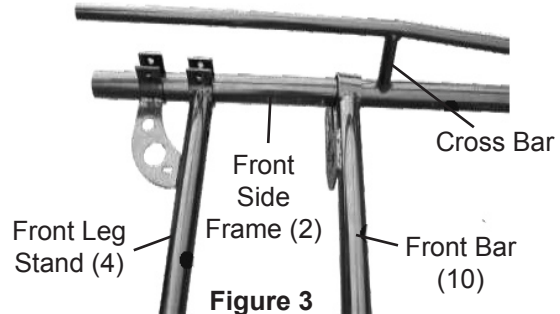

Figure 3
For Short Bed Truck (5'- 7' Long): Slide Front Bar (10) onto BACK ends of Front Side Frames (2). Then slide Front Leg Stands (4, 5) onto Front Side Frames so they are behind Front Frame's cross bar. See **Figure 3**, below.